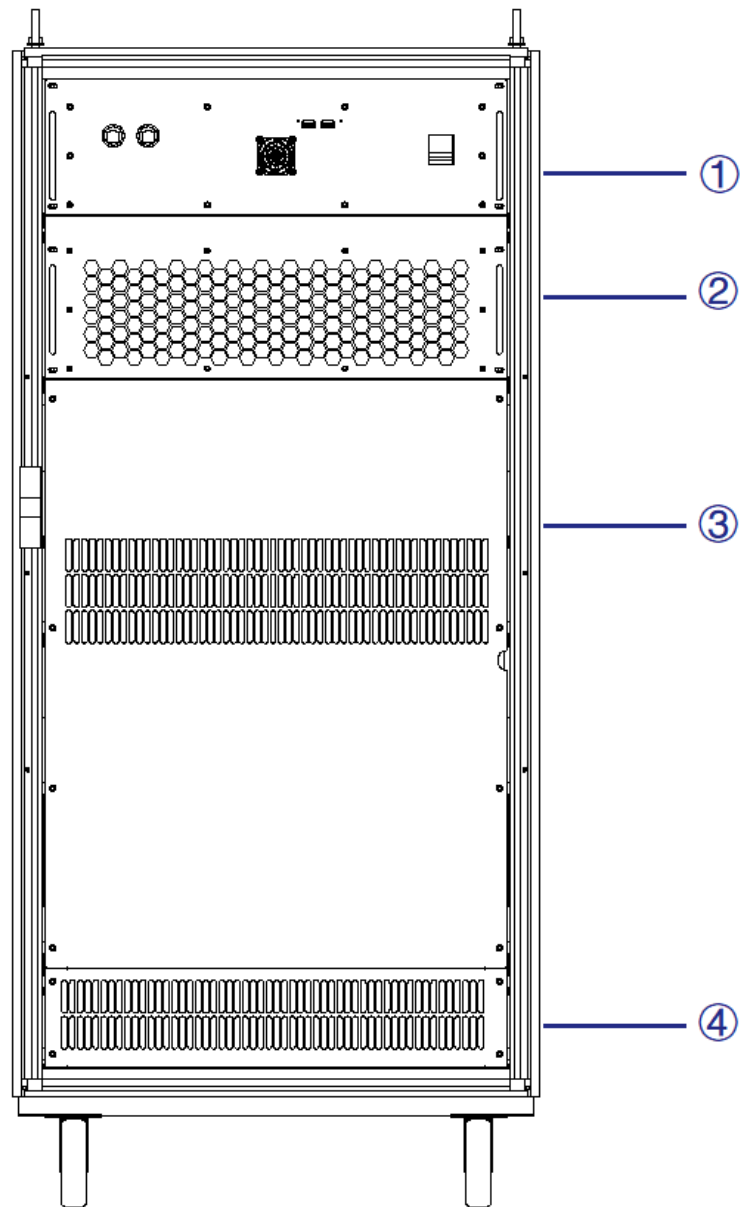

Figure 1-4 Internal structure
①	RS485 interface	Standard, RS485 interface is used for remote control.
②	LAN interface	Standard, communication interface is used for remote control.
③	ATI interface	Optional, analog control interface (-ATI option)
④	Product brand	The input / output configuration of the product is marked.
As shown in Figure 1-4, take LAB / LAB / SLV1-400-125 as an example, from top to bottom, the internal modules of LAB/SLV1 series are: ① control box layer, ② module layer, ③ input and output component layer, ④ wiring layer and other interface layer.